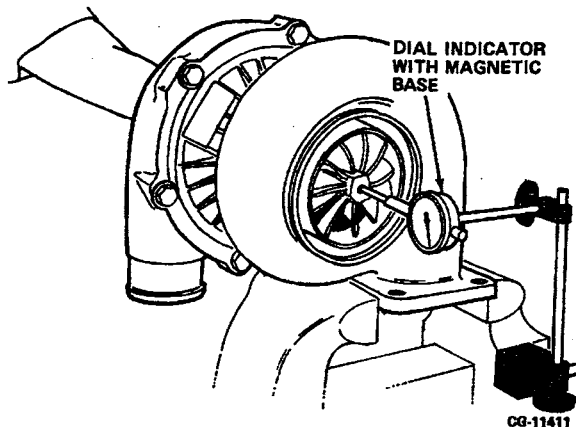

Figure 2.11. Checking Axial End Play
1. Clamp turbocharger mounting flange in a vise and position a dial indicator with a magnetic base on the frame of the vise. Place the tip of the indicator on the turbine end of the shaft. (Refer to Figure 2.11.)